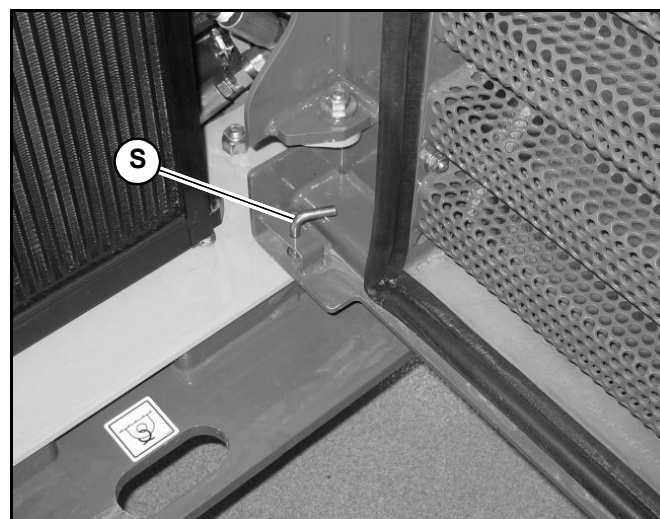

Fig. 89 – Engine Access
2. Pull up on handle (B) inside the top left lip of the rear door. Swing the door open to access engine components.
**NOTE:** Opening the rear door all the way engages stop (S, Fig. 89), which holds the door open.